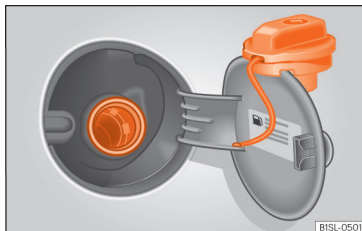

Fig. 40 Open fuel tank flap with tank cap in the holder
- Take out the fuel tank plug by turning it in an anticlockwise direction and rest it on the upper part of the fuel tank flap »» **Fig. 40**.